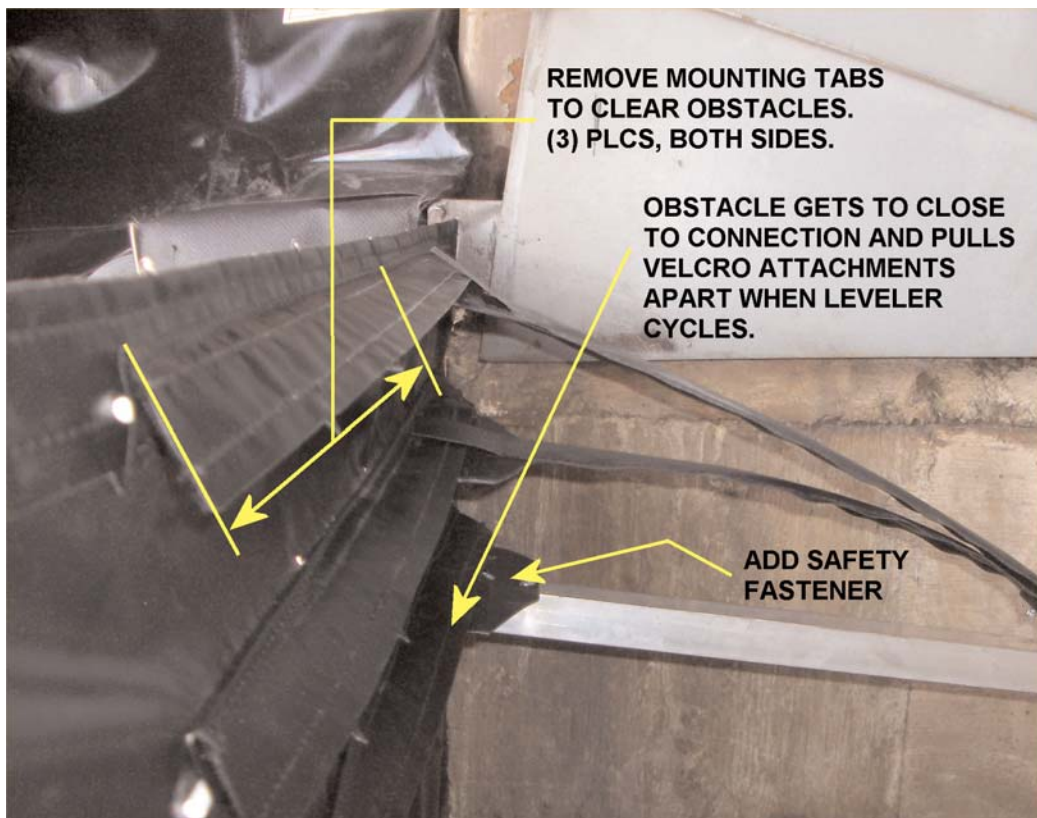

FIGURE 28
Since the curtain does not move, lip keepers, etc., can easily be trimmed around. There is no clearance required when trimming around these obstacles. Simple slices, "X" cuts or small cutouts, press fit around the obstacles are acceptable. Some wear will be seen during normal operation of the leveler when creating such a tight seal, but this wear will be limited and minimized during the break in period of the curtain. When adjusting the pivot arm assembly, the location of the pivot arm relative to the lip keepers location is important. Make sure that the pivot arm is at least 4" away from any lip keeper if possible. This will decrease the chance the lip keeper will cause a problem of putting too much pressure on the velcro attachments from the pivot arm to the main curtain itself. If too close, the attachments could pull apart, disengaging the spring arm from the curtain. (See Figure 28.) To avoid this problem, the following procedures can be done:
2. Trim the velcro attachment flap. Trimming the attachment flap will decrease the chance the curtain will hang up or run against the lip keeper or other obstacle. Trim just short of the lip keeper or obstacle. (See Figure 28)